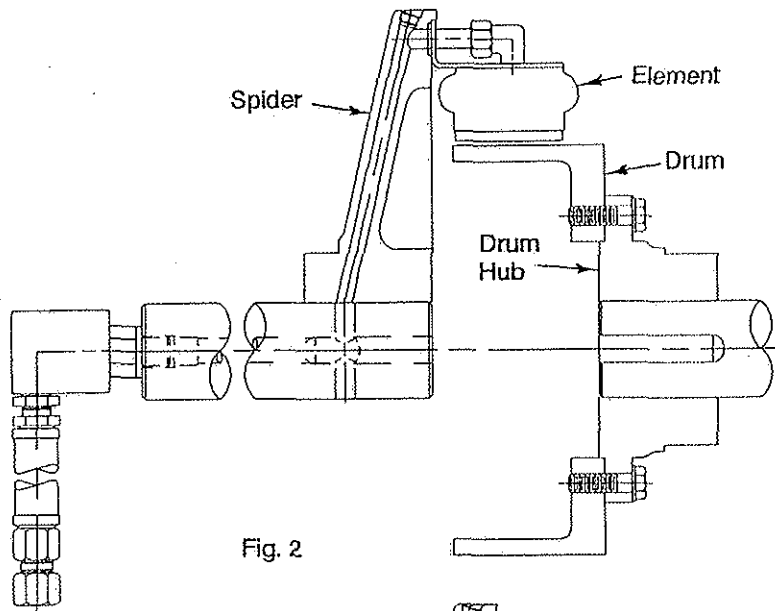

Fig. 2
2.1.1 Figure 2 illustrates the gap-mounted arrangement. In this arrangement, the element is attached to a spider which is typically mounted on the driving shaft. The drum is attached to a drum hub which is typically mounted on the driven shaft. The gap between the two shafts allows the element and drum to be removed without disturbing either shaft.